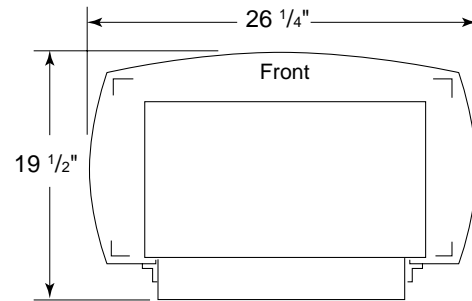

Figure 5 - Stove With Burner System Bottom Dimensions
4. This stove is a freestanding unit designed to set directly on the floor. If your stove is to be installed directly on carpeting, vinyl tile, or any combustible material other than wood, it must be installed on a metal or wood panel extending the full width and depth of the stove. See Figure 5.